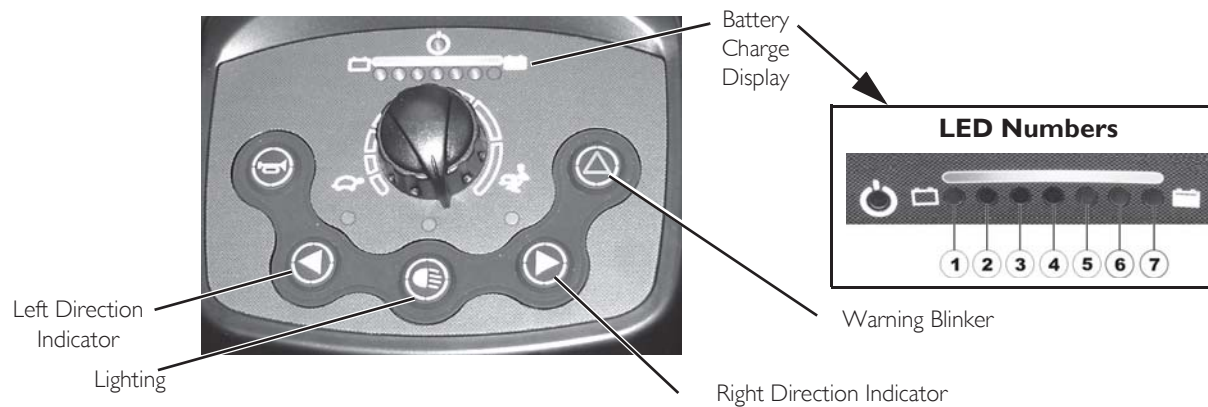

FIGURE 6.3 Activating/Deactivating the Audible Signals
For this procedure, refer to FIGURE 6.3.
2. Press and hold the buttons on the control panel in the keystroke combination shown in the table in FIGURE 6.3.